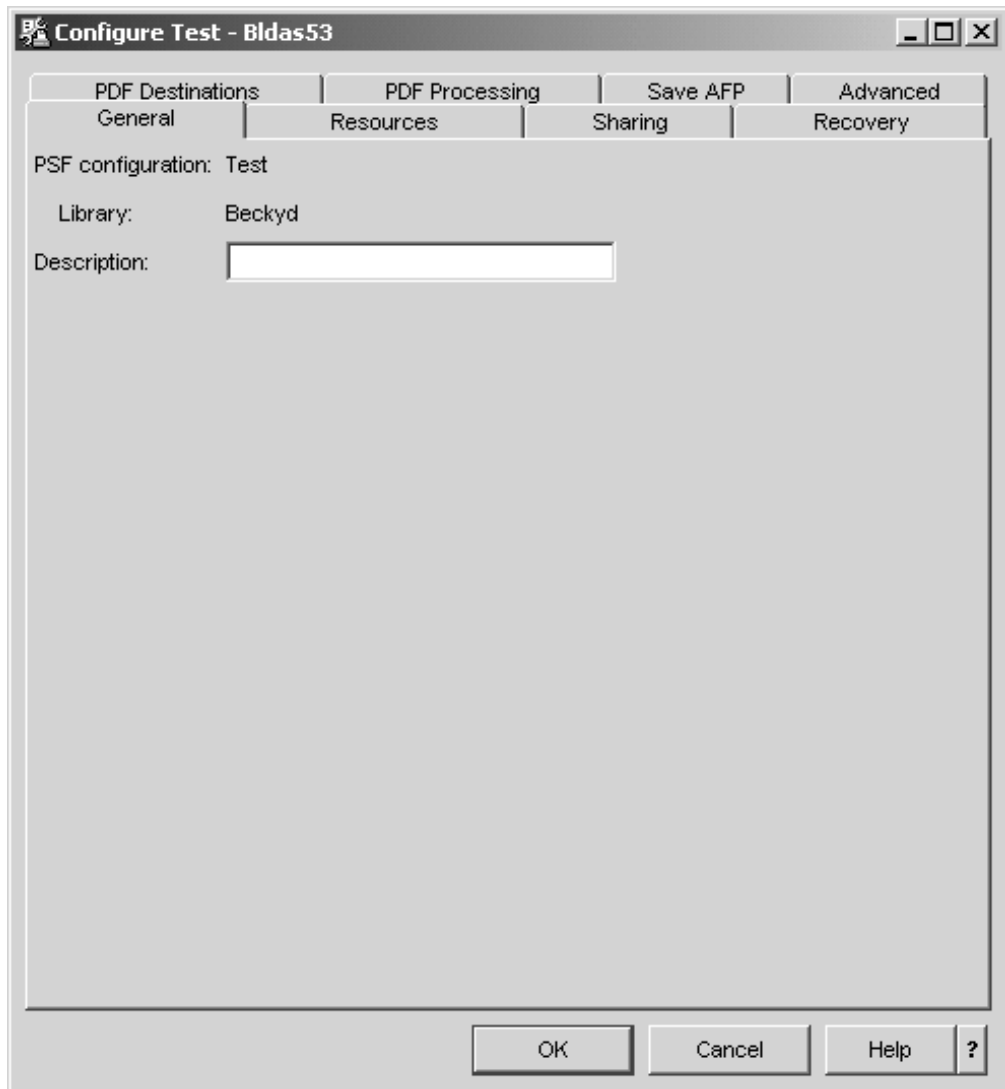

Figure 123. Configure PSF Configuration Window
6. Right-click the PSF configuration object you want to change and select **Configure**. The window shown in Figure 123 on page 234 opens, with the name of the PSF configuration object in the title.